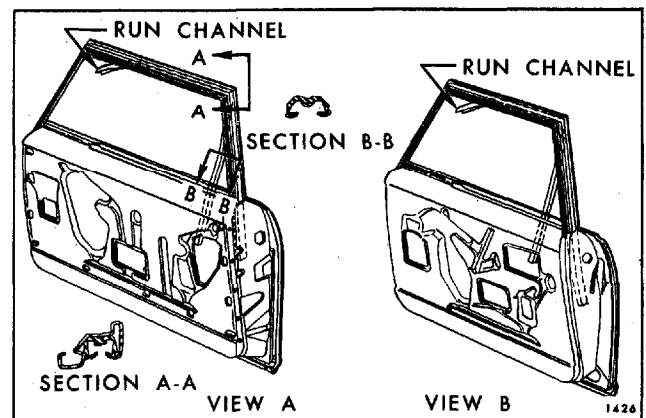

Fig. 7-101—Front Door Glass Run Channel Assembly - "X" Closed Styles
3. Press (finger pressure) sides of run channel together and remove assembly from door upper frame (see View "A" for "11" Styles and View "B" for "35 and 69" Styles in Fig. 7-101).